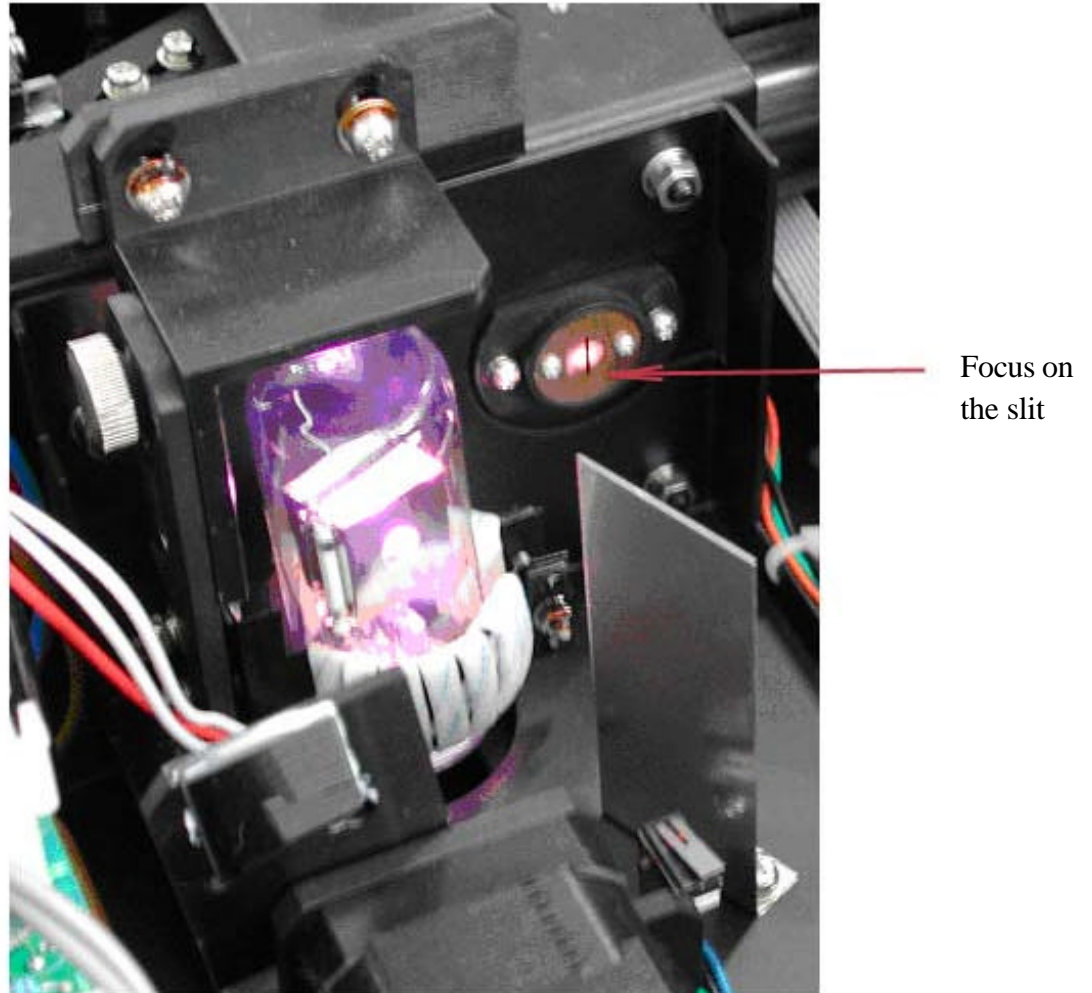

Fig A7
9. Turn on the instrument, check if the lamp is aligned properly (focused on the entrance slit) If not, adjust to make it properly. See Fig A7